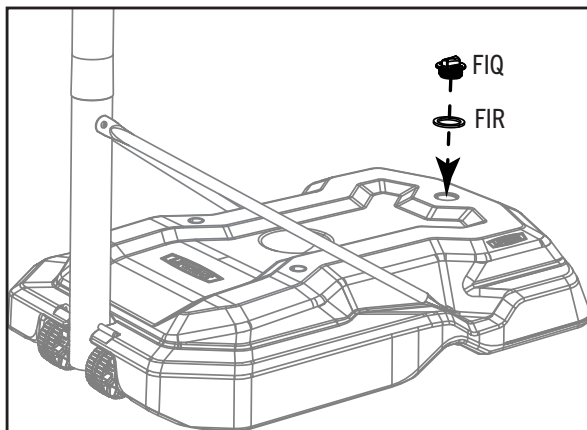

Fig. 3
5. Place the **gasket (FIR)** onto the **cap (FIQ)** and screw the cap onto the base until tight (Fig. 3).